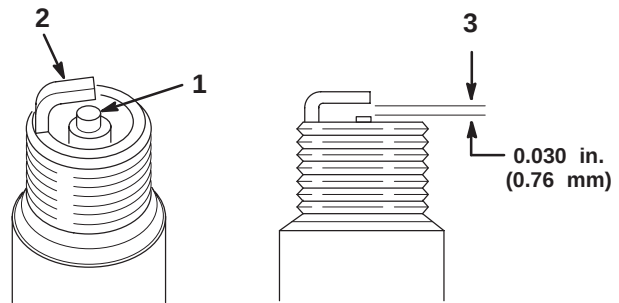

Figure 30
1. Look at the center of the spark plugs (Fig. 30). If you see light brown or gray on the insulator, the engine is operating properly. A black coating on the insulator usually means the air cleaner is dirty.
2. Check the gap between the center and side electrodes (Fig. 30).
3. Bend the side electrode (Fig. 30) if the gap is not correct.